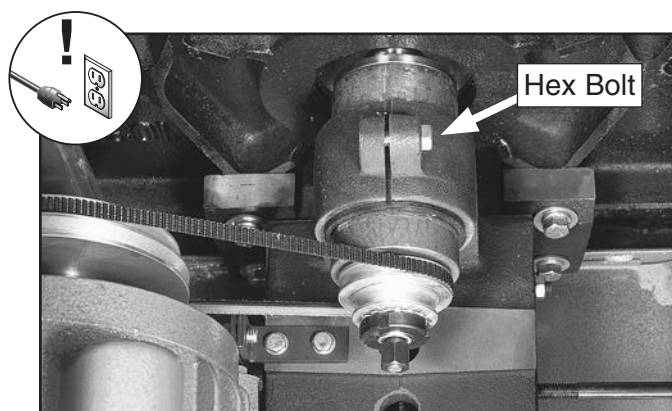

Figure 77. Spindle cartridge bracket hex bolt.
2. Reach into the rear of the cabinet, then loosen the hex bolt on the spindle cartridge bracket, as shown in **Figure 77**.